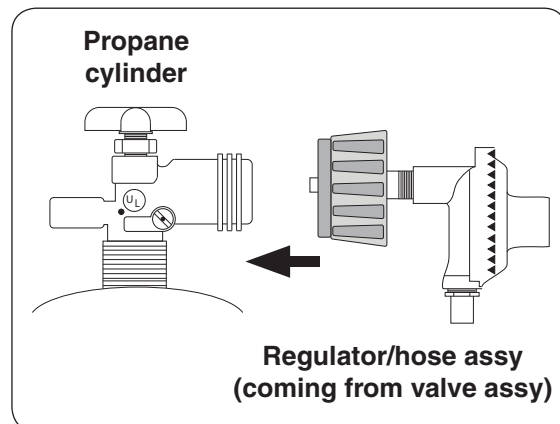

Fig. 22-1 Connecting to an L.P. cylinder
2. Attach the regulator end of the hose assembly to a propane cylinder (not included) and tighten (see Fig. 22-1).